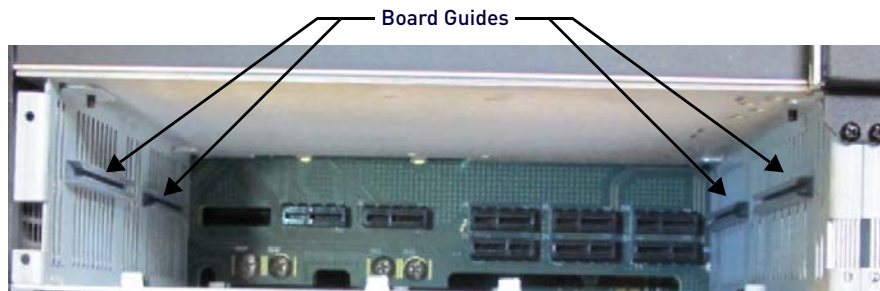

FIG. 157 Use removal tab to pull CPU straight out
7. Slowly slide the replacement CPU board into the empty slot, being careful to align the edges in the board guides along the insides of the slot (FIG. 157).